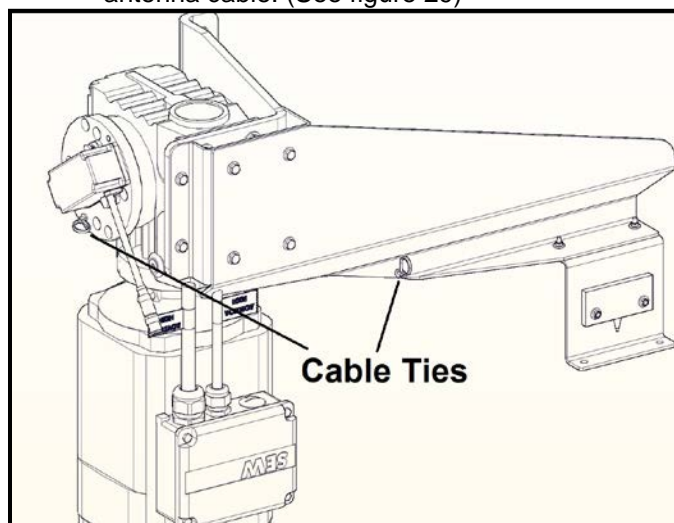

Figure 29
3. Two (2) cable ties are provided to route the antenna cable. (See figure 29)